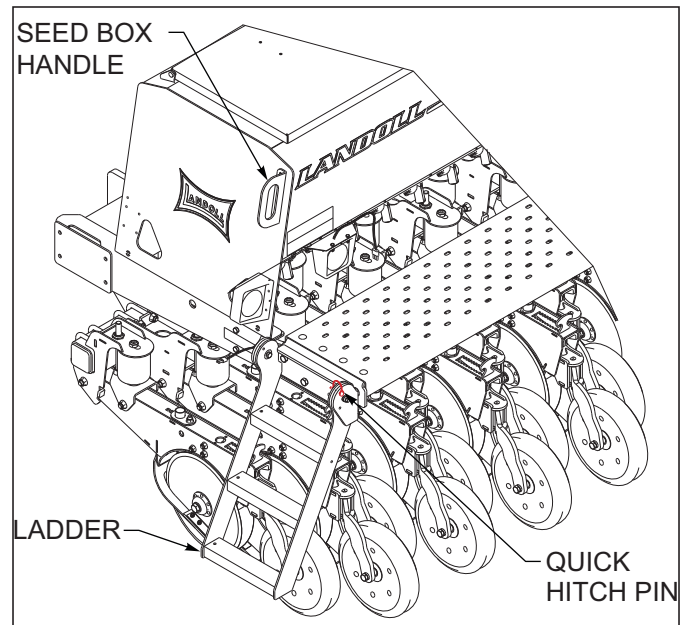

Figure 4-30: Using the Ladder
- a. Lower ladder to the down position and place pin in the storage location to gain access to the seed boxes *See Figure 4-30.*